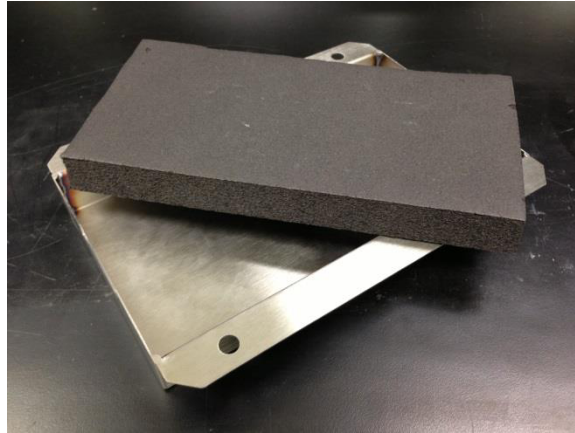

Figure 13 – os315X Protective Cover & Insulation Kit
- Accurate measurement of strain requires that the Strain gage, temperature compensator, and test specimen surface be at or near the same temperature. A layer of insulation over the sensor will help to reduce the temperature variations between these elements. A light colored or reflective surface will also help in situations where the gage will be exposed to direct sunlight. Figure 13 shows the closed cell foam Insulation and a stainless steel Cover provided in the Micron Optics os315X Protective Cover & Insulation Kit.